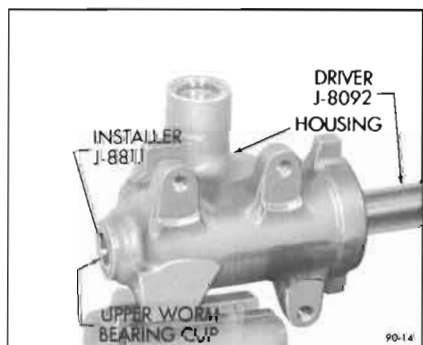

Figure 90-14—Installing Upper Worm Bearing Cup
2. Inspect worm bearings and cups for damage or excessive wear. Replace bearings if necessary. The lower worm bearing cup is not replaced separately, but is serviced with the worm bearing adjuster. If upper worm bearing cup is defective, drive cup out of housing with a punch and install new cup using Installer J-8811 with Driver Handle J-8092. See Figure 90-14.